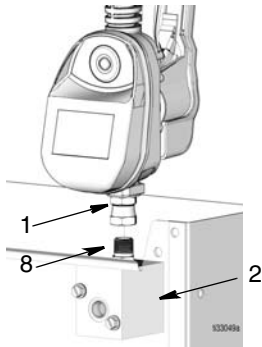

FIG. 20
5. Disconnect fitting (1) from pipe nipple (8) in manifold (2) as shown in FIG. 20.